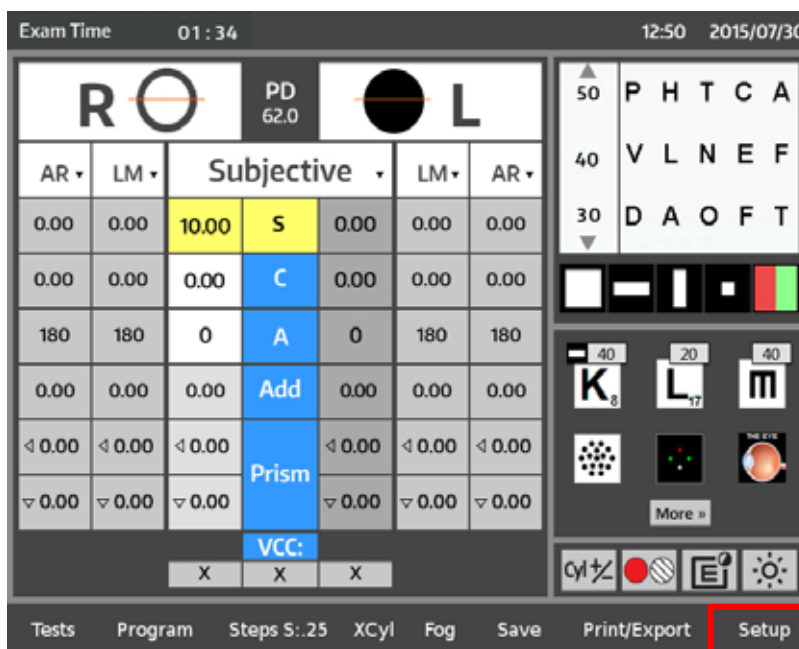

Figure IS-32 Setup
1. Touch **SETUP** in the bottom right corner of the screen to access the Setup screen. Refer to Figure IS-32.